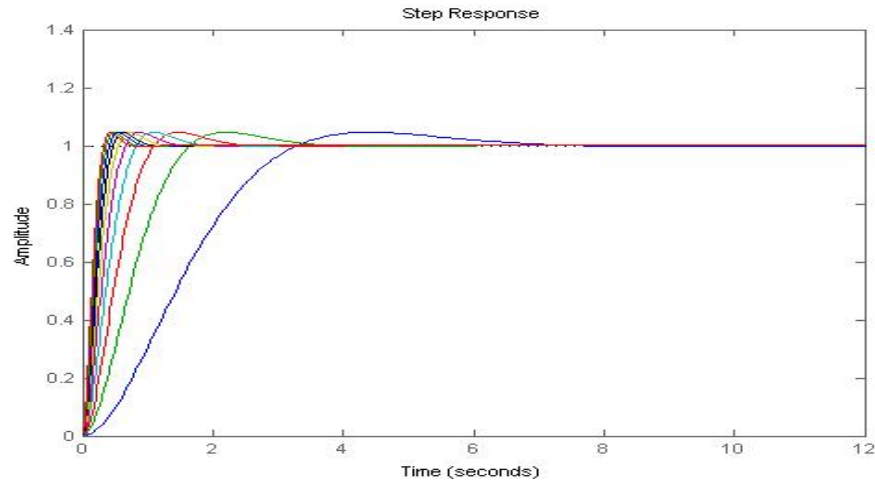

Figure 4.1: Step response and impulse response of the system for  $1 \leq \omega_0 \leq 10, \zeta = 0.7$
1. Figure 4.1 shows the step response of the system with varying values of  $\omega_0$ . It is clear that as  $\omega_0$  increases, rise time, peak time, and settling time all decrease, but the overshoot remains constant.